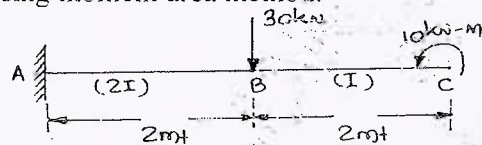

Fig.Q2(a)
- 2 a. Determine the slope and deflection at the free end for the cantilever beam shown in Fig.Q2(a). Using moment area method.